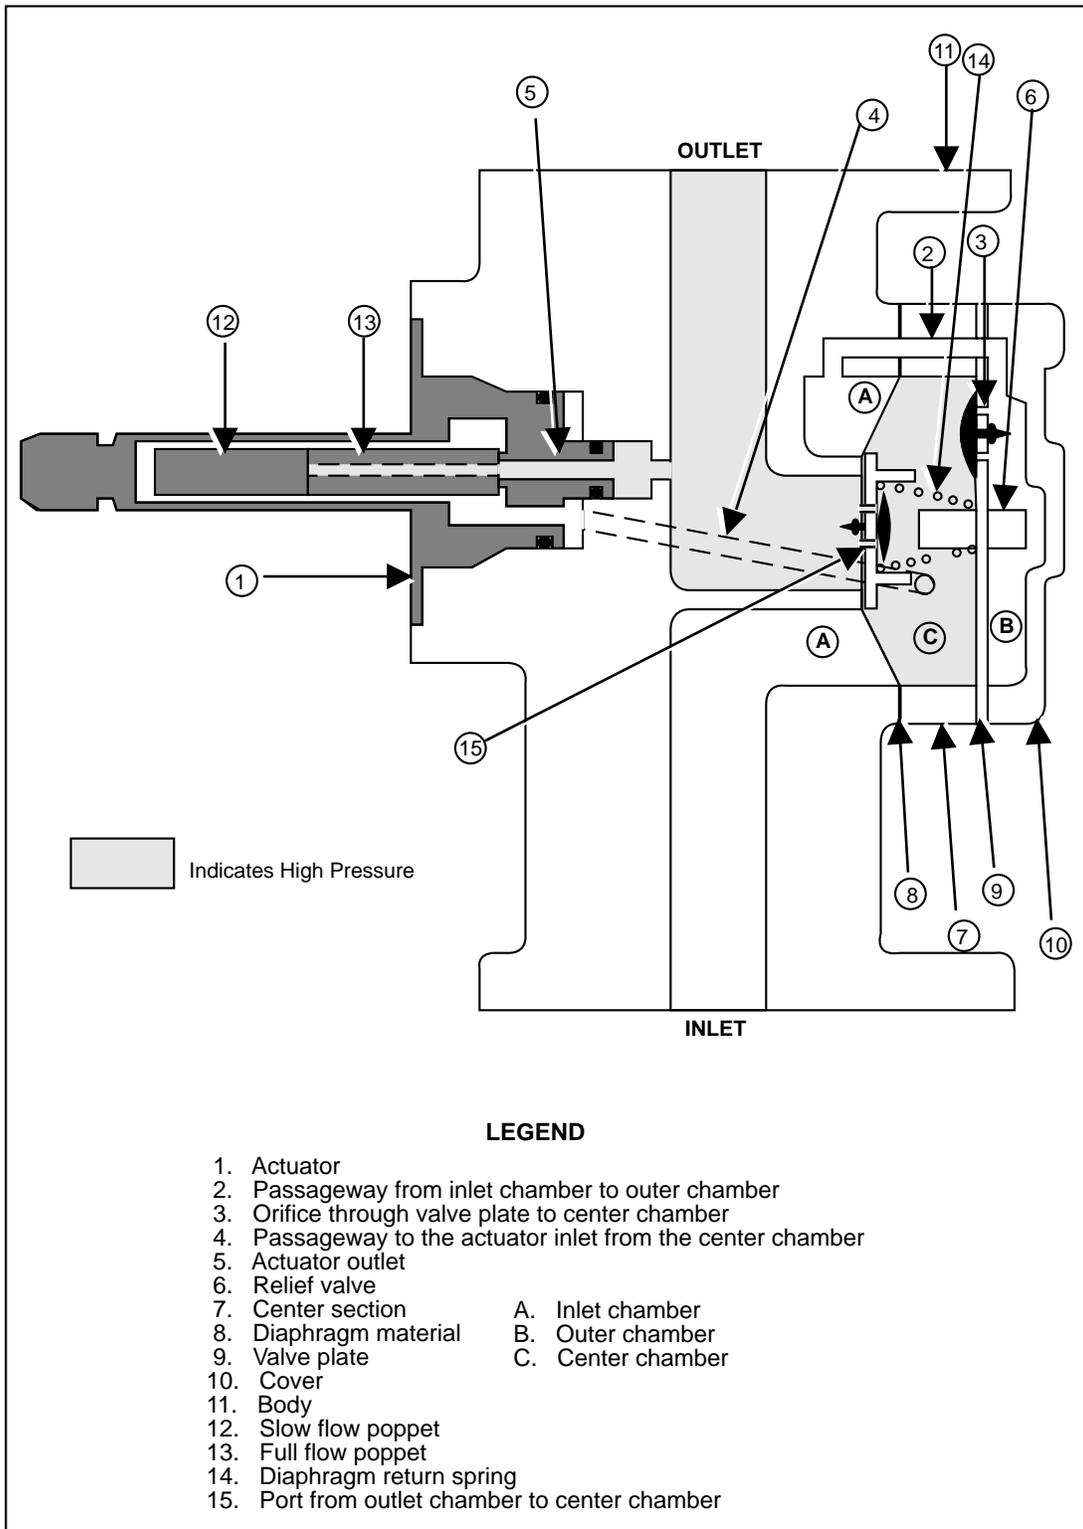

FIGURE 5-5. FLOW CONTROL VALVE HOLDING BACK PRESSURE
5.2.1.4. Flow Control Valve Holding Back Pressure (see Figures 5-5)